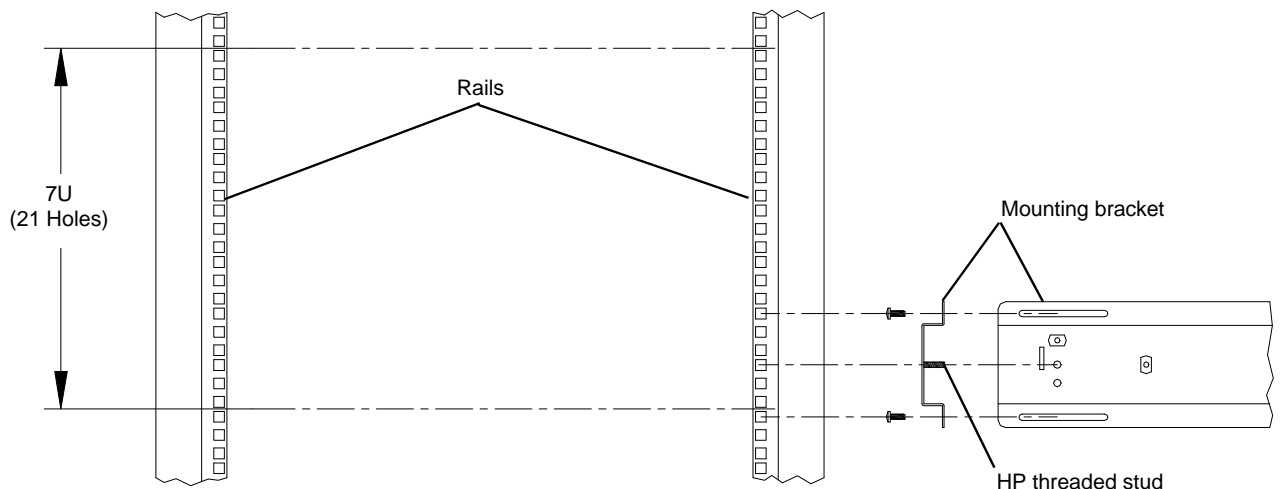

Figure 2
2. See **Figure 2** for Mounting Bracket locations for HP NetServer Lxr.